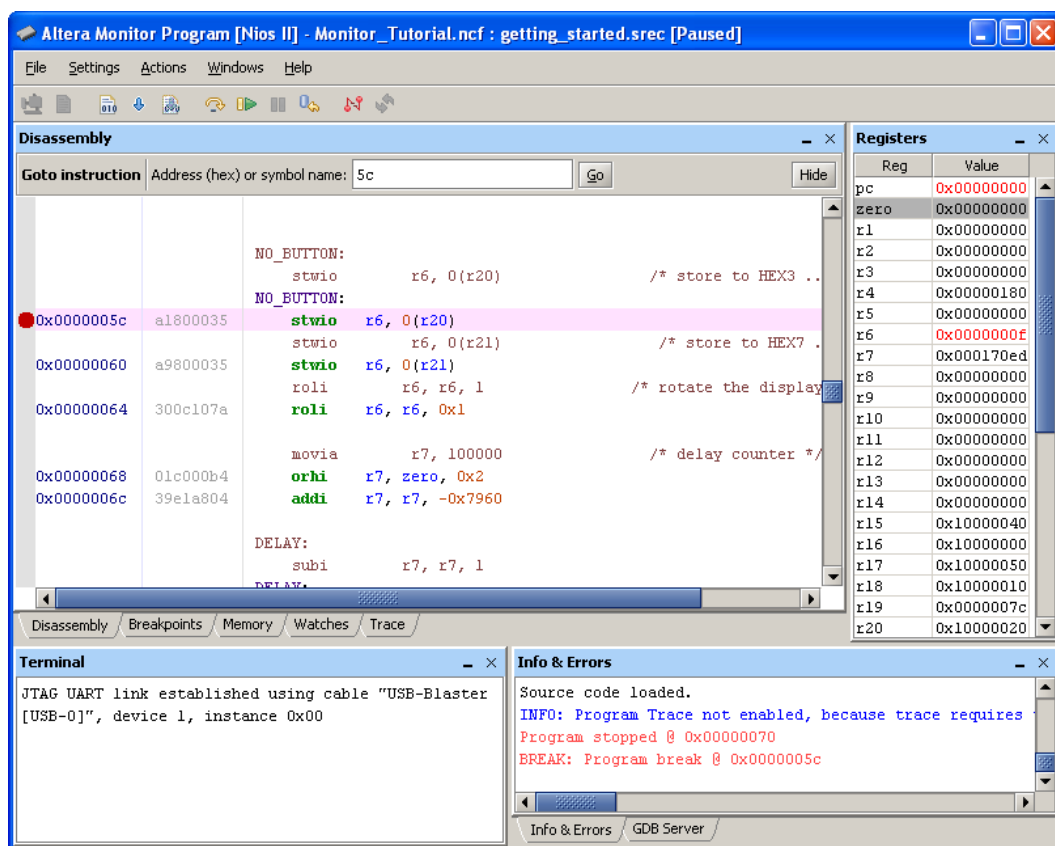

Figure 21. Setting an instruction breakpoint.
2. Click on the gray bar to the left of the address 0000005c in the Disassembly window. As illustrated in Figure 21 the Monitor Program displays a red dot next to the address to show that an instruction breakpoint has been set. Clicking the same location again removes the breakpoint.